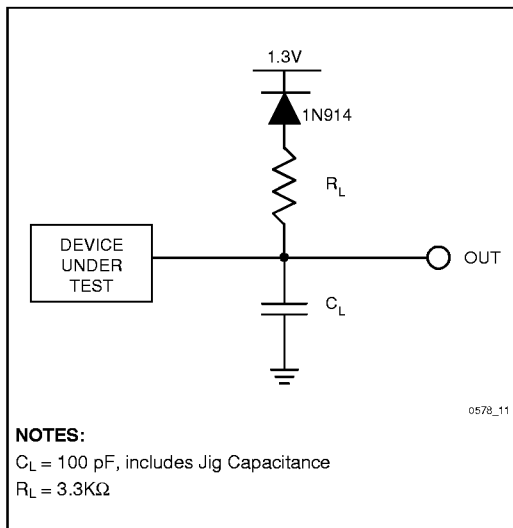

Figure 11. Standard Test Configuration
4. See *Standard Test Configuration* (Figure 11).